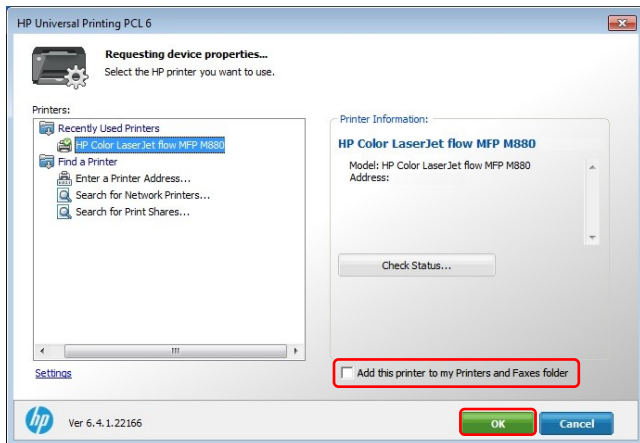

Figure 7-10 HP UPD Dynamic mode dialog box
4. Select **Add this printer to my Printers and Faxes folder** as shown in figure 7.10.